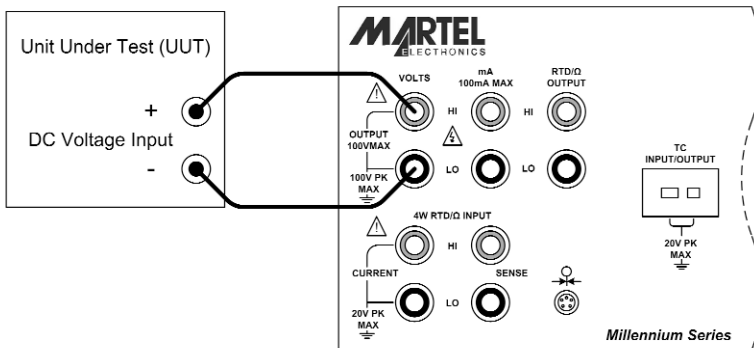

Figure 10 - DC Voltage Output Connection
- c) Connect the unit under test to the voltage output terminals of the 3001 as shown in figure 10.